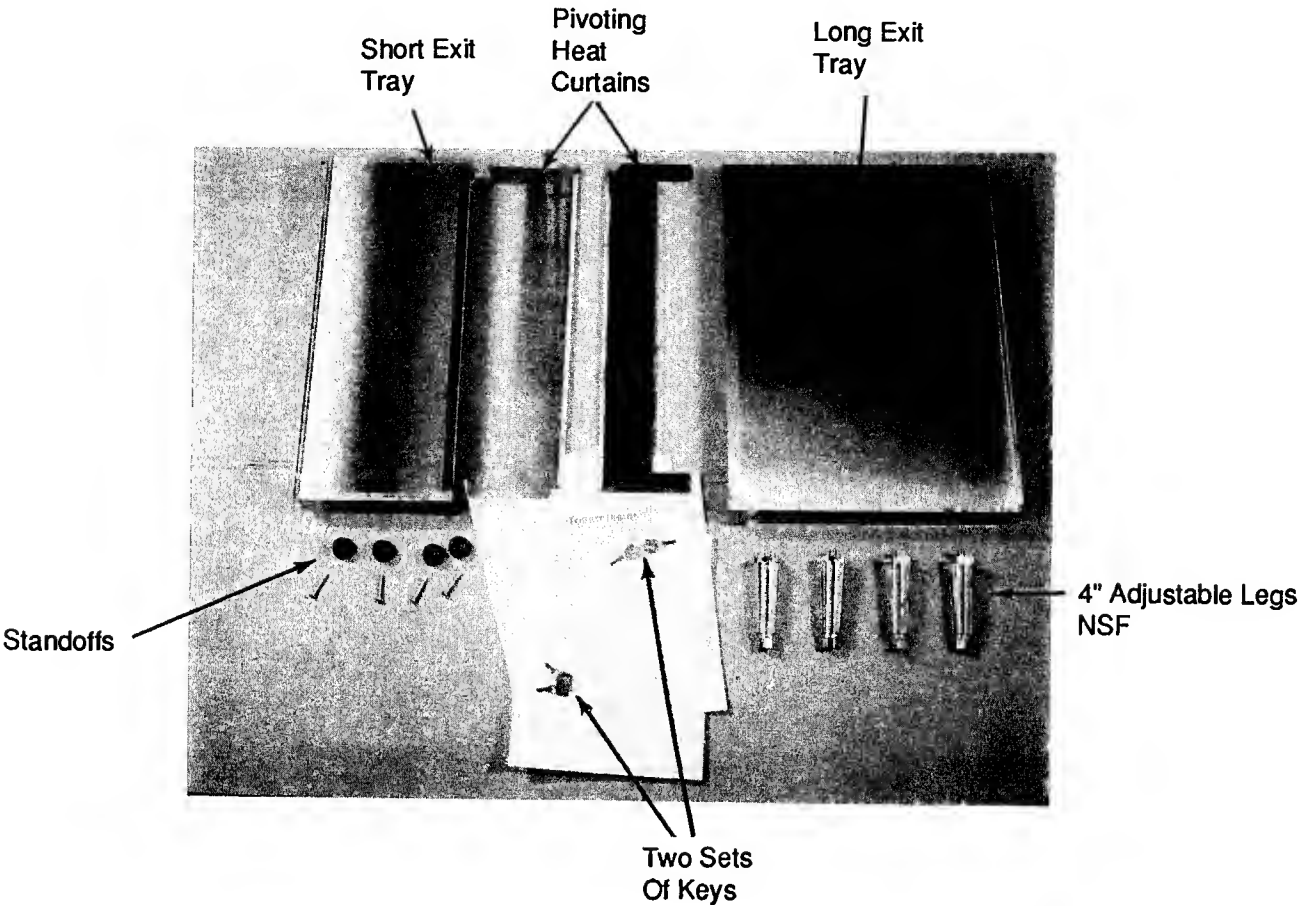

Figure 2-1
Attached to the conveyor belt is a box containing one (1) short exit tray, one (1) long exit tray, two (2) pivoting heat curtains, four (4) adjustable 4" legs, four(4) standoffs and two (2) sets of keys. (See Figure 2-1). Check to make sure you received the correct quantity of parts.